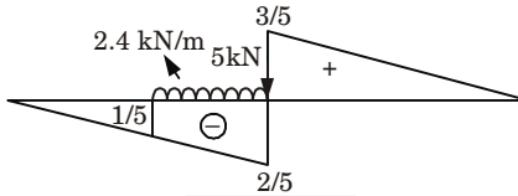

Fig. 4.10.2.
- Maximum Negative Shear Force :** For the maximum negative shear force placed the load in left part of section as shown in Fig. 4.10.2.